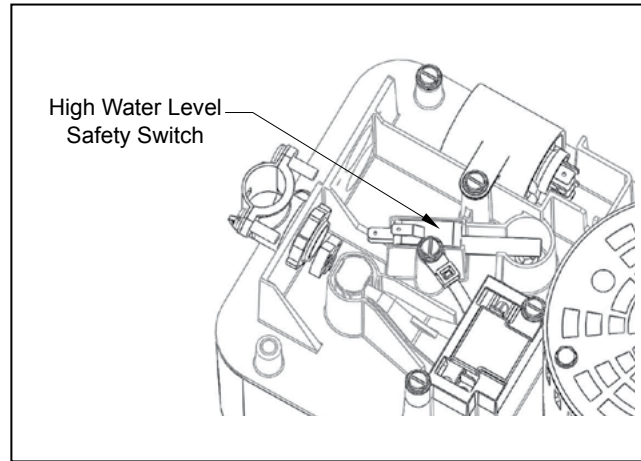

Figure 2
1. This product is supplied with a factory installed auxiliary safety switch. (See *Figure 2 for its location in pump assembly.*) This switch is a passive protective device providing protection from the possibility of pump overflow due to clogged discharge lines or pump malfunction. These switches are wired to work as an alarm trigger, but can be changed to act as a circuit breaker depending on the application requirements.